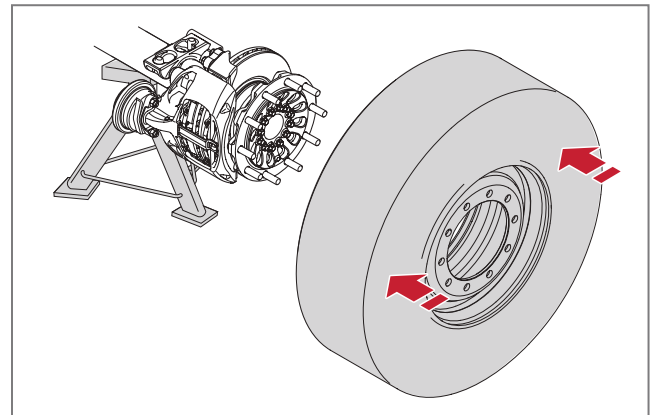

Fig. 12 - Mounting the wheel
2. Mount the wheel, see ► Fig. 12